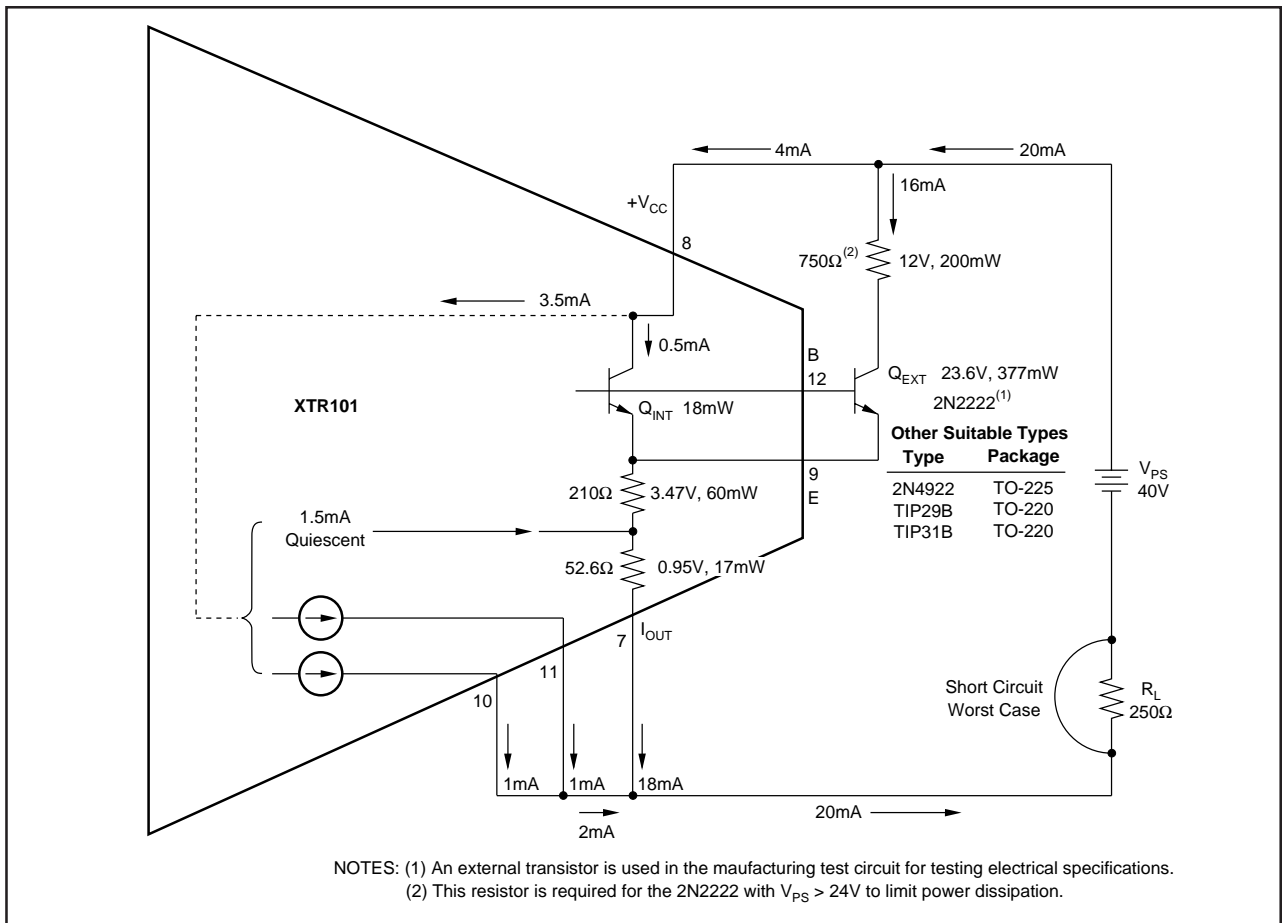

FIGURE 2. Power Calculation of XTR101 with External Transistor.
The optional external transistor, when used, is connected in parallel with the XTR101's internal transistor. The purpose is to increase accuracy by reducing heat change inside the XTR101 package as the output current spans from 4-20mA. Under normal operating conditions, the internal transistor is never completely turned off as shown in Figure 2. This maintains frequency stability with varying external transistor characteristics and wiring capacitance. The actual "current sharing" between internal and external transistors is dependent on two factors: (1) relative geometry of emitter areas and (2) relative package dissipation (case size and thermal conductivity). For best results, the external device should have a larger base-emitter area and smaller package. It will, upon turn on, take about $[0.95 (I_O - 3.3\text{mA})]\text{mA}$. However, it will heat faster and take a greater share after a few seconds.
tions shown in Figure 2. Thus the 2N2222 will safely operate below its 400mW rating at the upper temperature of $+85^\circ\text{C}$. Heat sinking the 2N2222 will result in greatly reduced accuracy improvement and is not recommended.